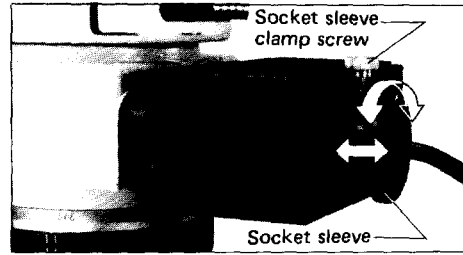

Fig. 10
- ① Connect the lamp cord to the transformer, and turn ON the power switch.
- ② Screw the quarter wave plate into the top of the objective lens, and turn the milled ring until brightest illumination is obtained (the white dot on the ring comes to the front side).
- ③ Focus on the specimen.
- ④ Remove the eyepieces, and look into the sleeves to observe the illumination. After releasing the socket sleeve clamp screw, center the lamp bulb by sliding in or out, and turning the socket sleeve until a uniform illumination is obtained in both viewfields. (Fig. 10)
- ⑤ Brightness adjustment can be done by turning the voltage adjuster on the transformer or turning the quarter wave plate. In this case, when the white dot on the wave plate comes to the front side, brightest illumination is obtained.